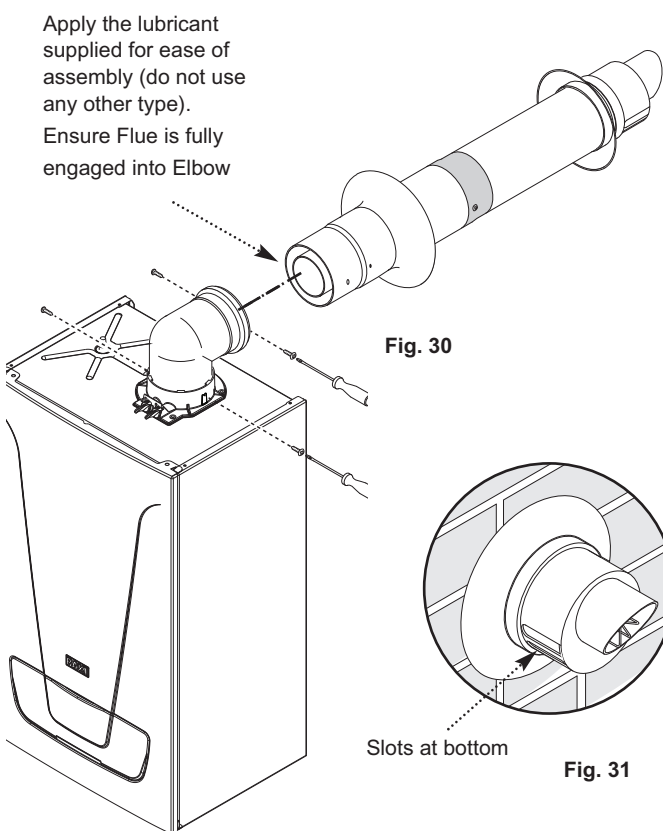
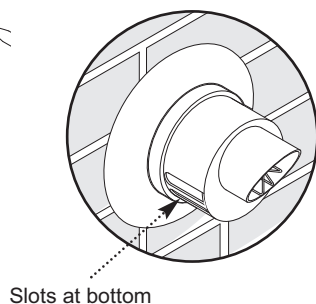

Fig. 30
Fig. 31
11. Draw the flue back through the wall and engage it in the elbow. It may be necessary to lubricate to ease assembly of the elbow and flue (Fig. 30).
12. Ensure that the terminal is positioned with the slots to the bottom (Fig. 31). Secure to the elbow with the screws supplied with the telescopic flue (Fig. 30).